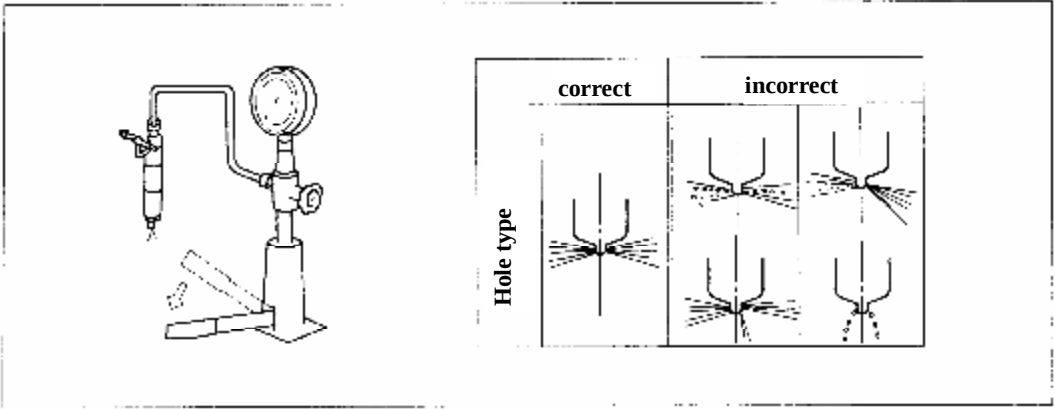

Figure 3-43 Check injecting quality of a fuel injector
3.9.6.1 Check injecting quality. Put a fuel injector on test stand to observe its spraying quality (see figure 3-43). Clean, adjust and even replace injector in the events of poorly atomization, fuel spills, leakage and strange injecting sound.
A normal injecting quality is identified with following conditions: fine fuel mist; a certain cone angle (between 4-12, see figure 3-43); clear sound of “pop, pop...” clear and quick fuel shutoff; no dipping or leaking after injecting. Moisture at injector tip is allowed.